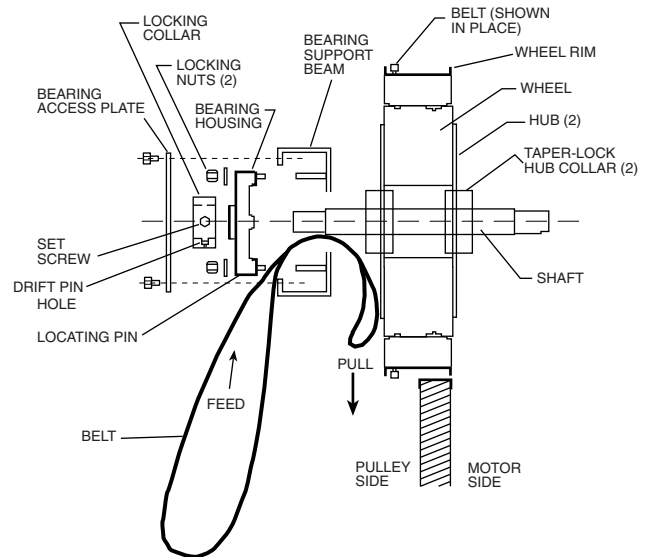

Fig. 189 — Solid Belt Replacement
SOLID BELT REPLACEMENT (FIG. 189)
5. Form a small loop of belt and pass it through the hole in the bearing support beam. Grasp the belt at the wheel hub and pull the entire belt down. Loop the trailing end of the belt over the shaft (Fig. 189 shows the solid belt partially through the opening).